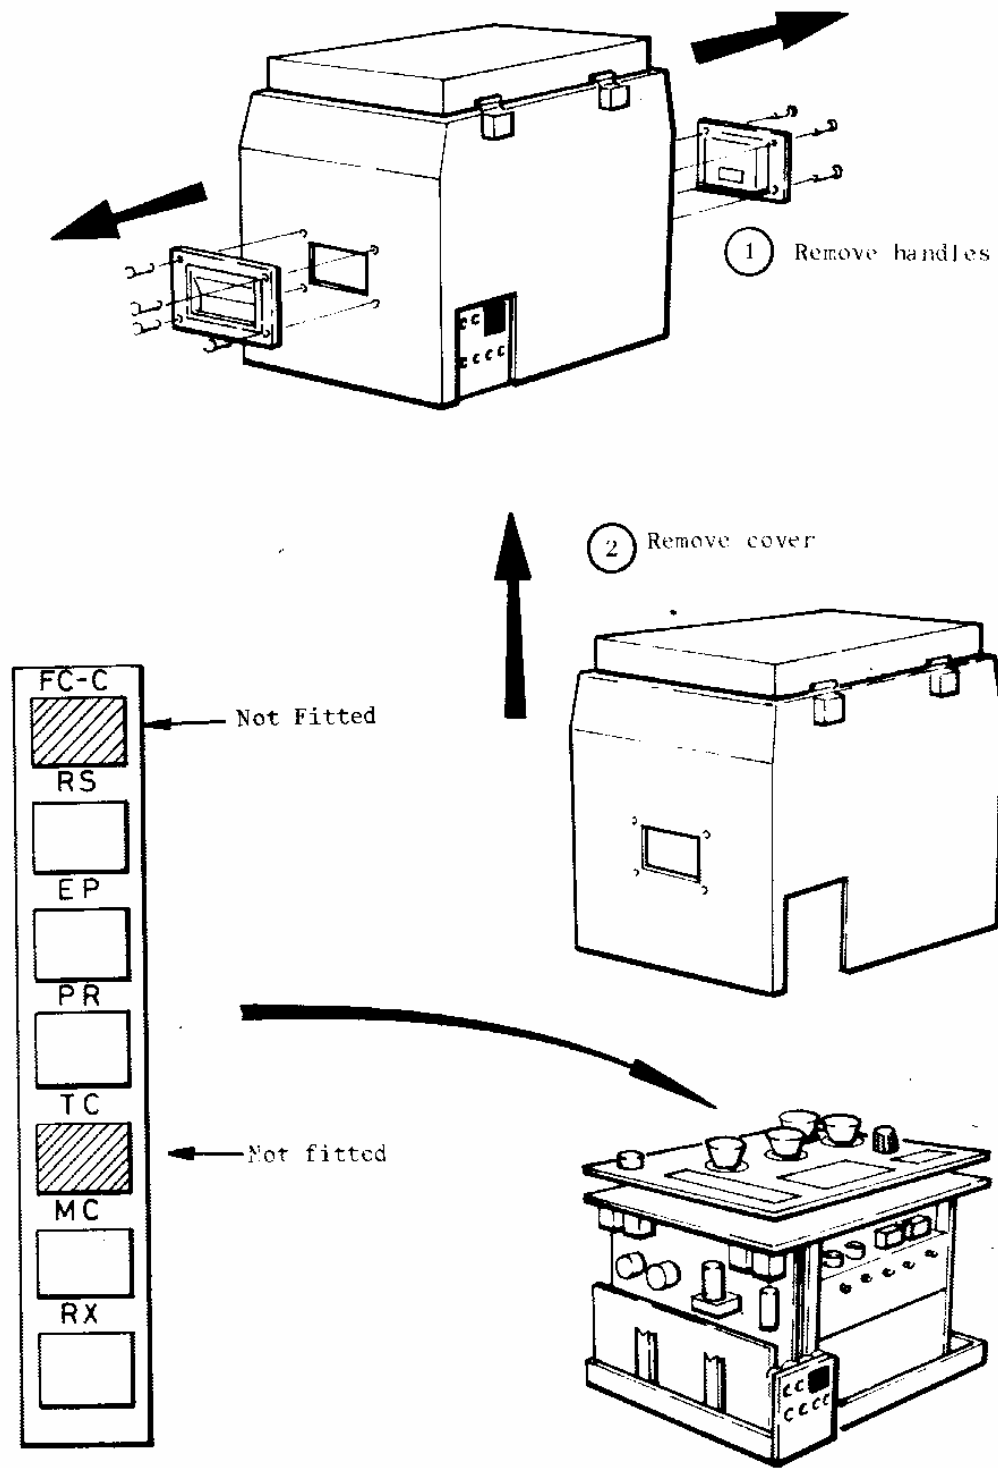

Fig 12 Removing Control Cover
10. REMOVING COVERS and NOTES ON RETAINING RELAYS. Fig 12.
- ① Remove both handles.
- ② Lift cover straight upwards and off.